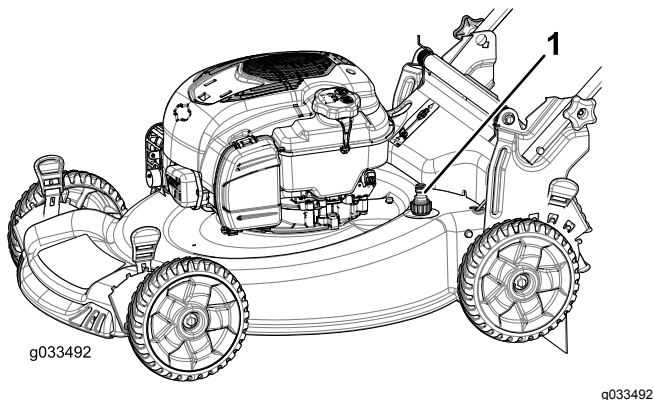

Figure 34
5. Attach a garden hose that is connected to a water supply to the washout port (Figure 34).